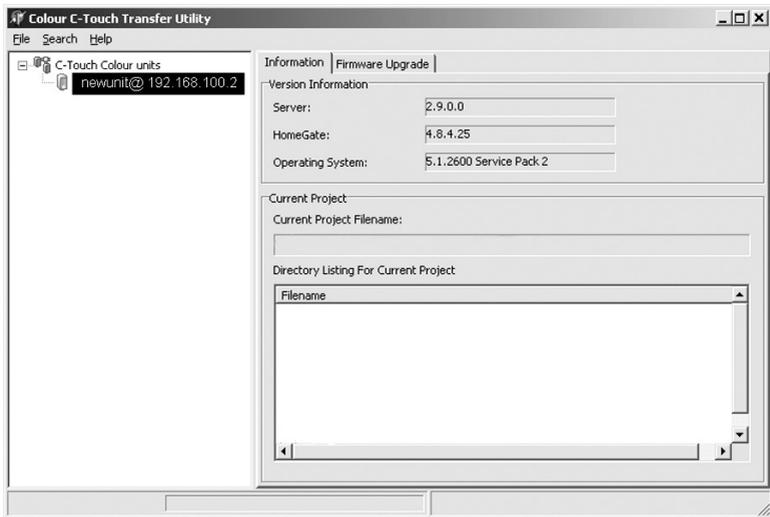

Figure 22. Touch screen information screen
11. Select the touch screen to be configured. The screen provides information about the selected touch screen (see Figure 22).